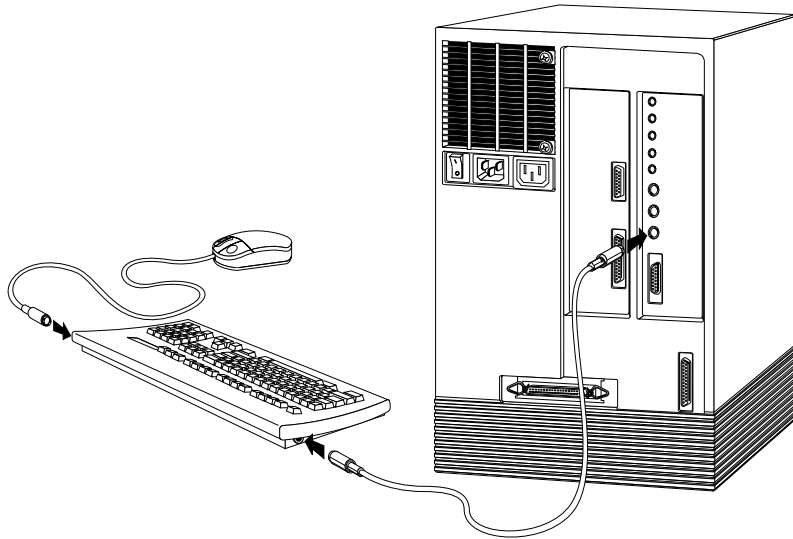

Figure 2-11 Connecting the Keyboard to the IRIS Indigo Chassis
- Connect the mouse cable to the connector on either side of the keyboard, as shown in Figure 2-11.
- Connect one end of the keyboard cable to the remaining connector on the keyboard, as shown in Figure 2-11.
- Connect the other end of the cable to the connector designated by the keyboard icon on the back of the workstation, as shown in Figure 2-11.